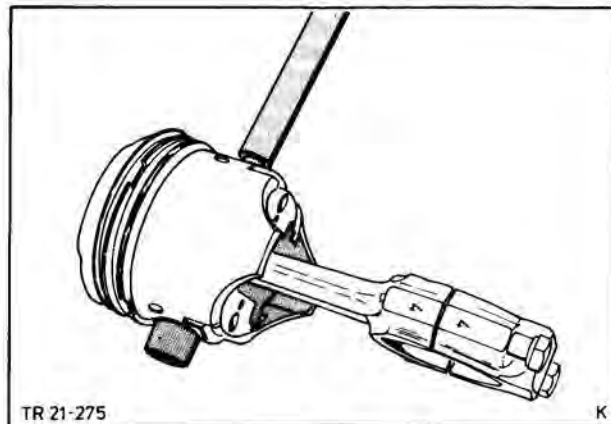

Fig. 214. Remove piston pin
2. Drive piston pin out of piston using a suitable drift, Fig. 214.